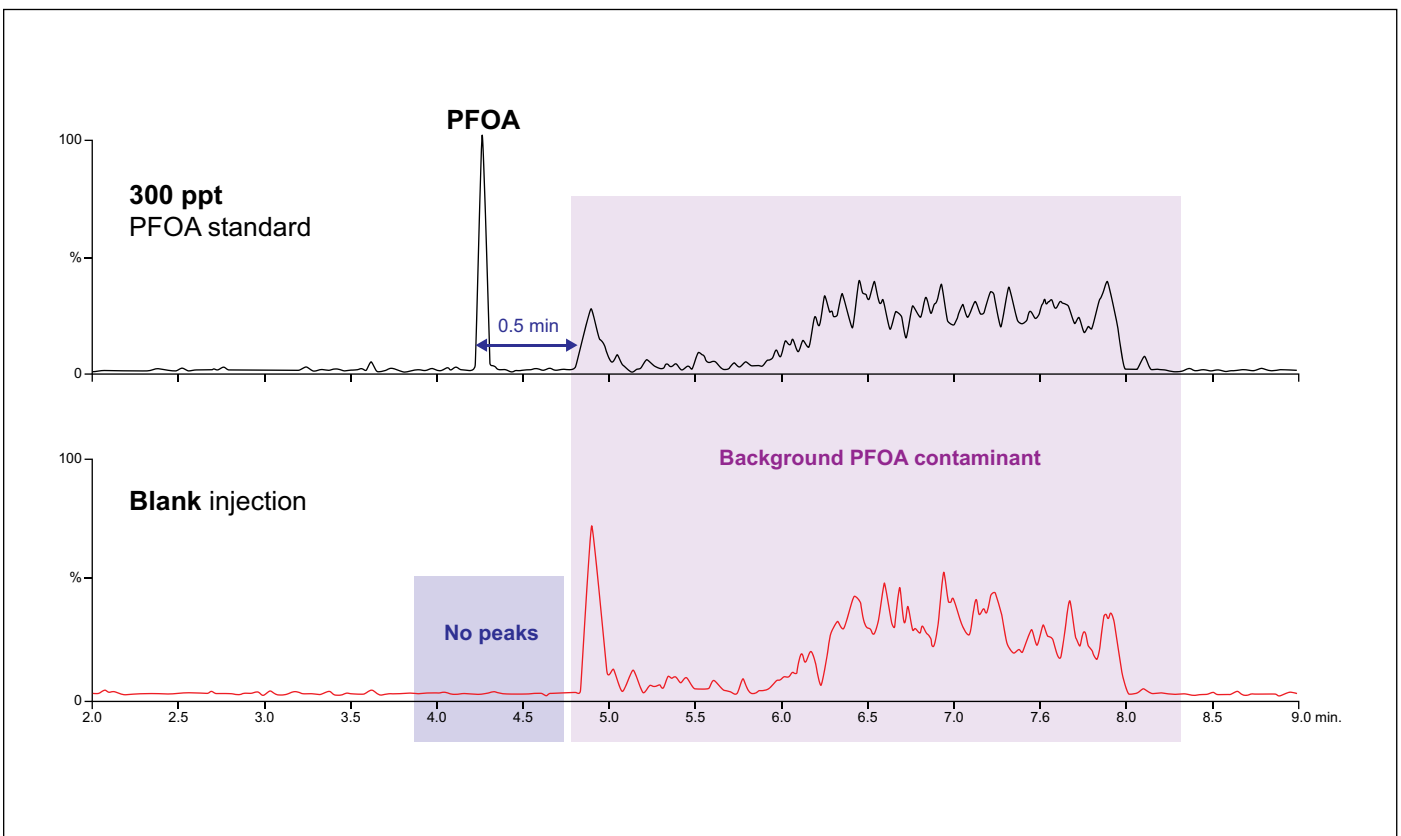

Figure 4. Example of PFOA system contaminant delay with isolator column installed.
2. Isolator Column: The isolator column is a 50 mm column installed after the solvent mixer, but before the analytical column. The purpose of this column is to delay any inherent system contamination (from either solvents or internal instrument components) from interfering with the PFAS in the sample. This column will not remove the PFAS contaminants but delay them from co-eluting with the analytical peak. They will be chromatographically separated from the analytical/sample peak (Figure 4).